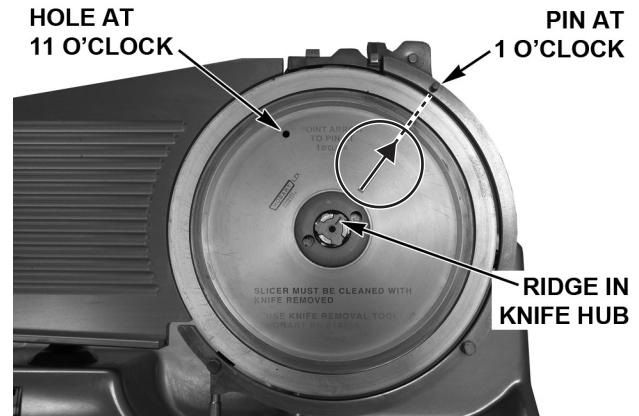

Fig. 12
- Ensure the gauge plate is closed, then rotate the Knife by hand to align the arrow on the Knife with the Pin on the Ring Guard at the 1 o'clock position (Fig. 12). The ridge on the Knife Hub will also align with the same pin.